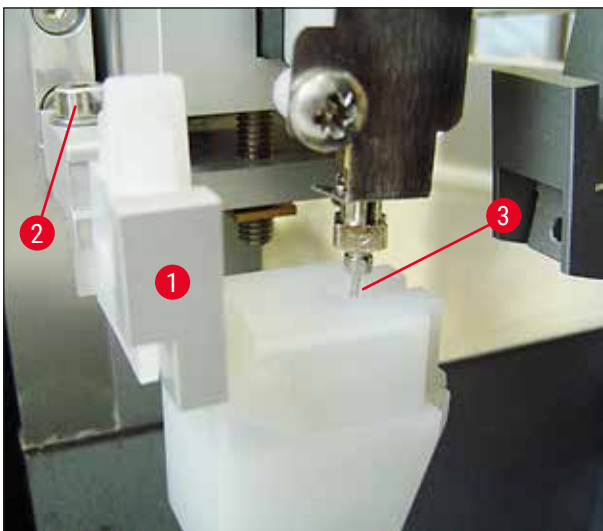

Fig. 23
2. To do so, unscrew the screw (→ Fig. 23-2) using the No. 3 Allen key (→ Fig. 22-5) and align the dispenser needle cleaner by moving the bracket (→ Fig. 23-1) sideways until the dispenser needle (→ Fig. 23-3) move into the correct position in the middle of the cleaning port (→ Fig. 23).